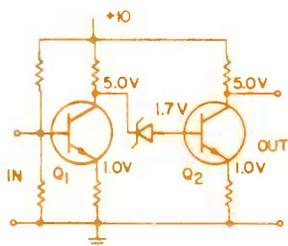

Fig. 6. Zener diode used as dc level shifter in direct-coupled amplifier.
exists. An unusual example is shown in Fig. 6. Here a Zener is used to couple signals from the collector of one amplifier stage to the base of a second stage, while preserving a fixed voltage drop between the two transistors, so that each transistor receives the proper bias voltage. Since the voltage difference between the collector of  $Q_1$  and the base of  $Q_2$  is 3.3 volts, you know the Zener is rated at 3.3 volts.
4. The amplifier shown in Fig. 6 would be suitable for use only at very low audio frequencies, since the Zener diode can not respond quickly enough to handle high-frequency signals.